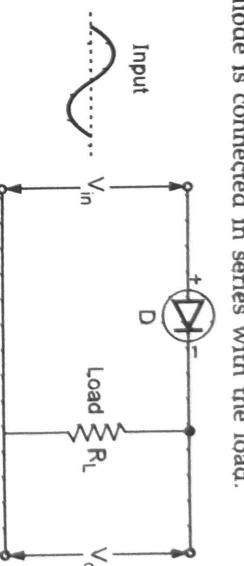

Fig. Q.42.1 Negative series clipper
- Consider a series negative clipper shown in the Fig. Q.42.1, where diode is connected in series with the load.